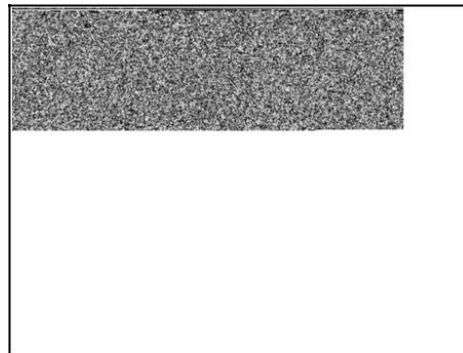

Figure 25
2. Using a new head gasket, install cylinder head on cylinder and start screws by hand. Step-torque screws in sequence shown in Figures 25, 26, 27, and 28 until final torque value is achieved. Torque screws to value listed in Section 12 - Engine Specifications.